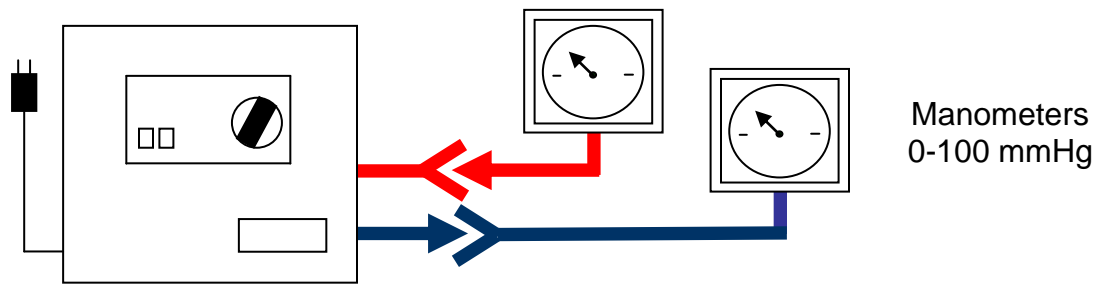

FIGURE 3
- 8.2.1 Connect the control unit as shown in FIGURE 3.
3. Connect gages to control unit as shown in FIGURE 3 (Page 6).